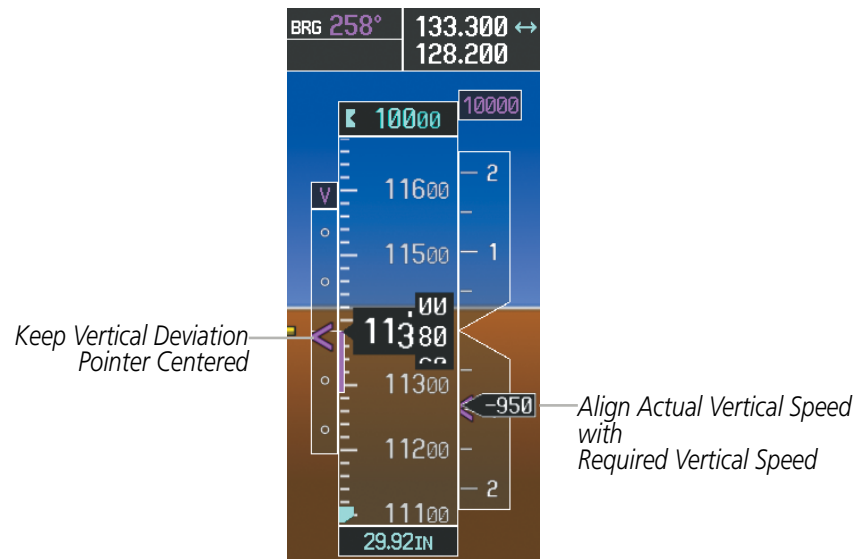

Figure 5-139 VDI & RVSI Showing Correctly Established Descent
- 16) Upon reaching TOD, a descent vertical speed is established by placing the VSI pointer in line with the RVSI as shown in Figure 5-139.